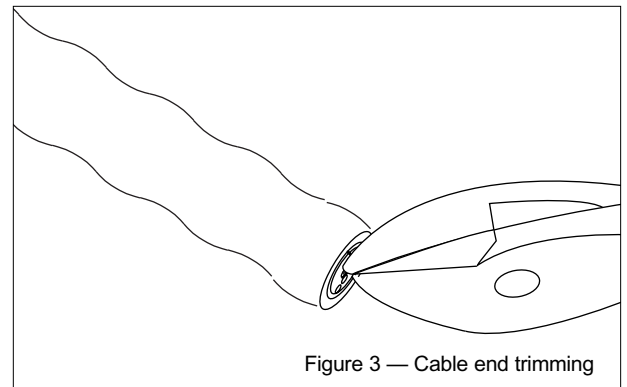

Figure 3 — Cable end trimming
Step 4: To ease installation, trim the end of the cable with side cutters to remove any protruding armor, buffered fibers or yarn (Figure 3).